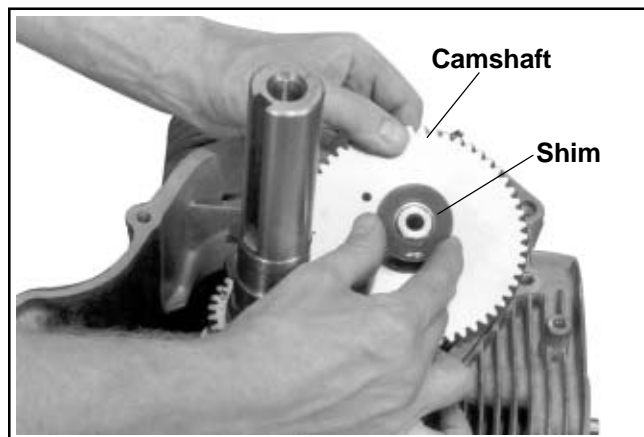

Figure 9-64. Removing Camshaft (Note Shim).
1. Remove the camshaft and shim. See Figure 9-64.